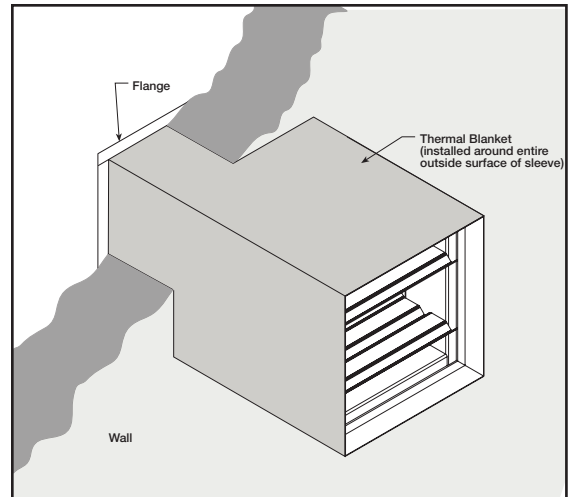

Figure 2: Sleeved damper with Thermal Blanket (duct termination).
- Flange on front (grille end) of sleeve must be a minimum of 16 gauge (1.5mm) steel and have a 5/8 in. (16mm) minimum flange leg (refer to **Figure 2**). Using #10 (19mm) sheet metal screws, screw from inside of sleeve through the rear portion of the studs (as shown in **Figure 1**). Space screws a maximum of 6 in. (152mm) on center and a maximum of 2 in. (51mm) from the corners (minimum of 2 screws per side). No retaining angles are required on the side of wall opposite from the grille.